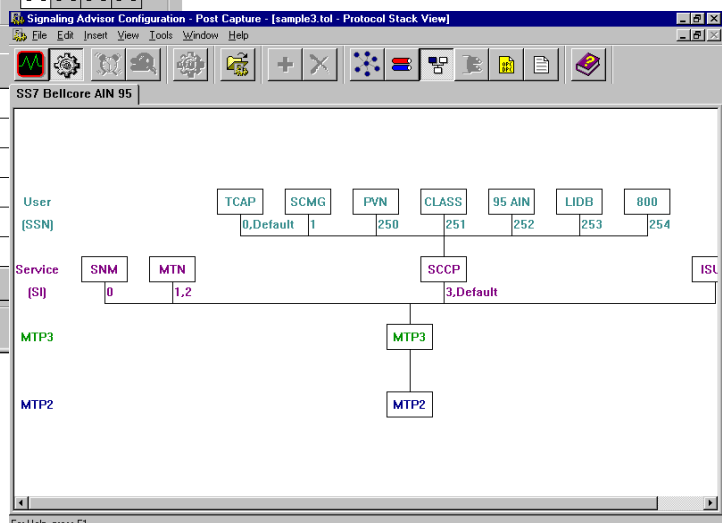

Figure 2 Protocol stack configuration.
If the default protocol stacks do not match the signaling being tested, or a special variant is required, you can quickly change the assigned protocol stack graphically. Service Indicators (SI) and Sub-System Numbers (SSN) can be edited quickly and easily. Figure 2 shows a typical protocol stack.